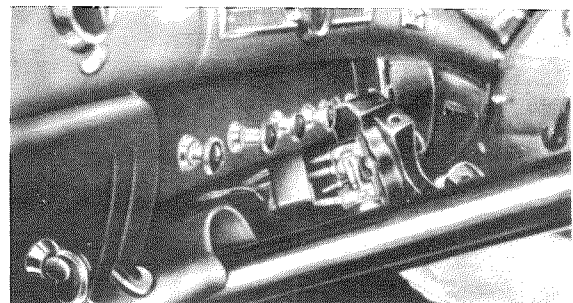

Fig. 46—8/3
8. Remove the contact cap from the steering column bracket and disconnect the cables (Fig. 46—8/3).